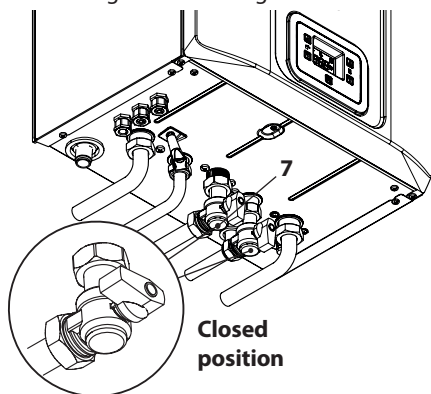

Figure 6.2
- Close the gas cock 7 in Figure 6.2.